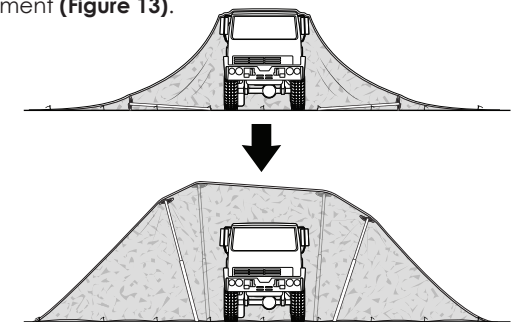

Figure 13.
7. Raise and stake support poles underneath net assembly to create a non-uniform silhouette around and above the concealed equipment (Figure 13).